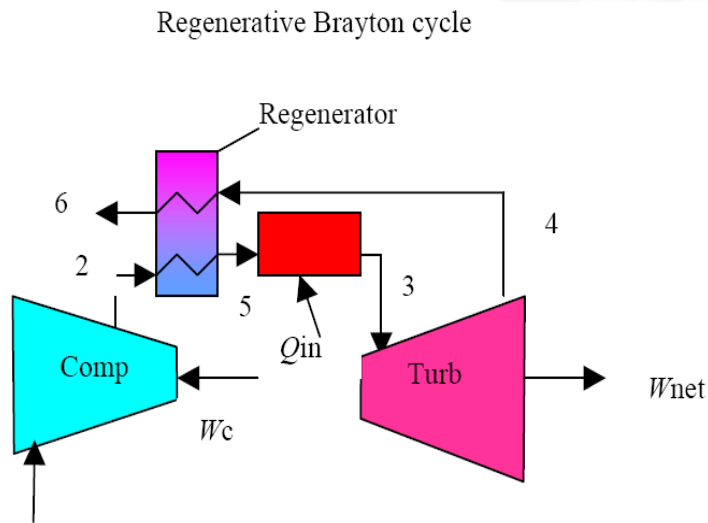

Fig 7a: A gas-turbine with regenerator
- Regeneration: is transfer of heat from high-temperature gases at the turbine exit (state 4) to the high-pressure air at the compressor exit (state 2) prior to combustion (Fig 7a & 7b).